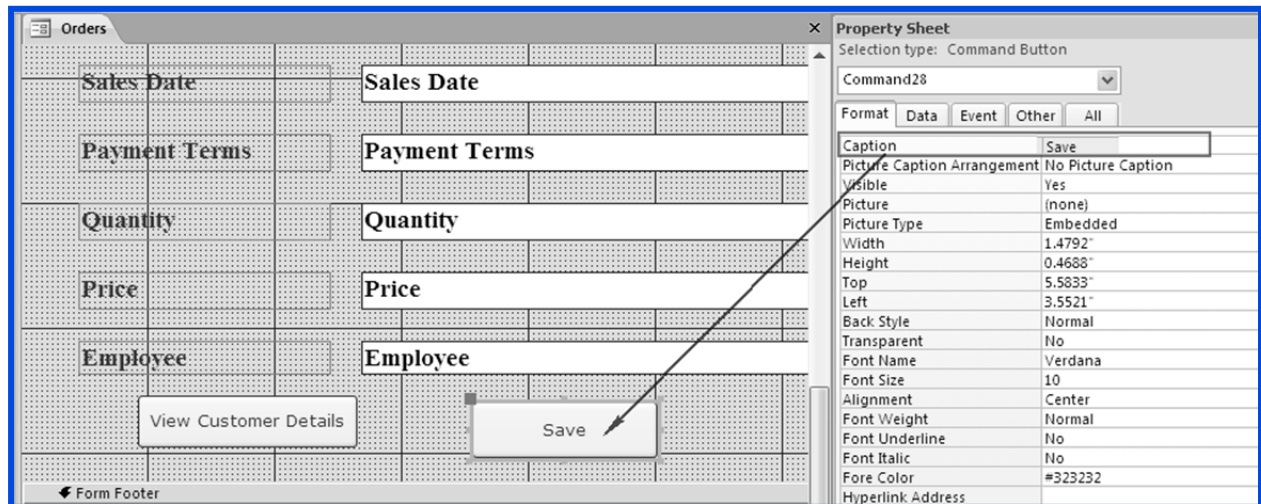

Fig. 4.2.28: Set the caption property as Save.
3. Open the control properties by selecting the *Command* button and pressing *F4*. Set the value of the *Caption* property as *Save*, as shown in Fig. 4.2.28.